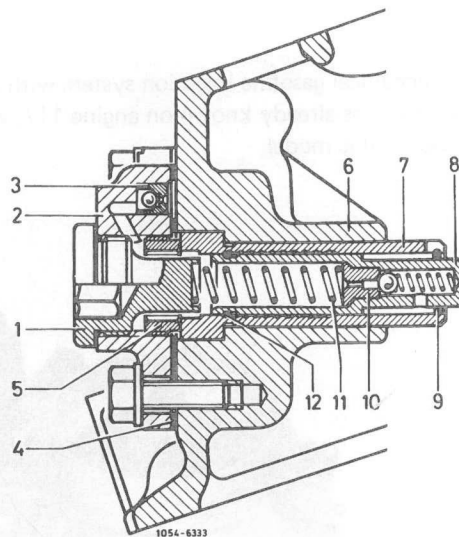

Fig. 33
The contact pressure required for tensioning the timing chain comprises the force of the compression spring and the oil pressure present in the chain tensioner. Independent of the engine oil pressure, the oil pressure in the chain tensioner is held approximately constant during all operating conditions by means of a check valve (3) and a pressure limiting valve (10) (Fig. 33).